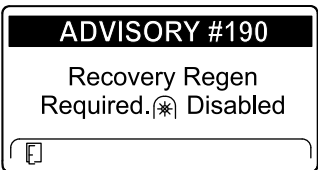

Figure 41
- Recovery regeneration required—power takeoff disabled ADVISORY #190 (Figure 41)